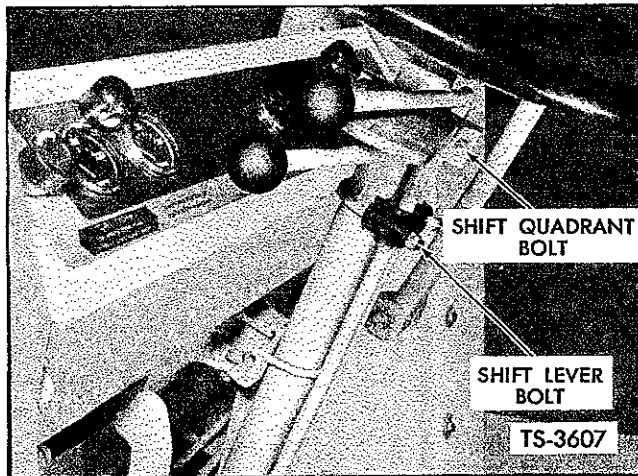

Fig. 34. Tighten Shift Quadrant and Shift Lever Mounting Bolts
2. Check and tighten U-bolts holding shift lever support plates to steering column. See Figure 34. These bolts should be snug. Support plates are keyed into steering column which prevents their rotation.